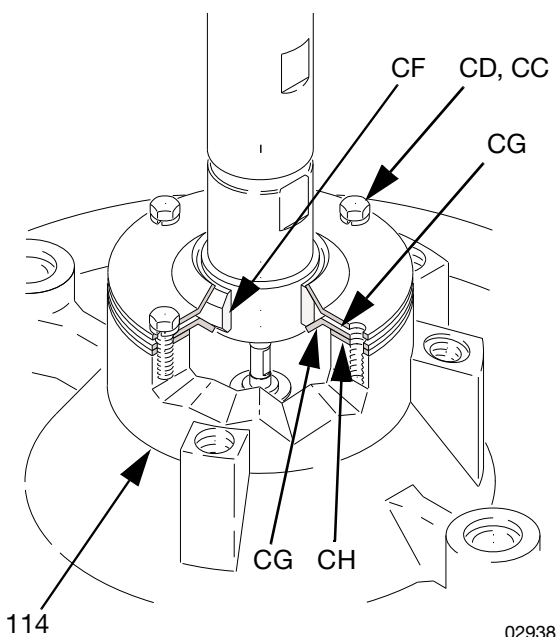

FIG. 10
4. Slide the top seal plate (CG) up over the pump intake valve and push the seal (CF) onto the pump intake housing. Leave the bottom seal plate (CG) and gasket (CH) in place. See FIG. 10.
5. Loosen the mounting bracket setscrews (35), and carefully lower the pump until the intake valve is below the gasket (CH), then tighten the setscrews.
6. Push the seal (CF) down firmly against the bottom seal plate (CG).
7. Align the holes in the top seal plate with the holes in the ram plate (114). Secure tightly to the ram plate with the four screws (CD) and washers (CC).